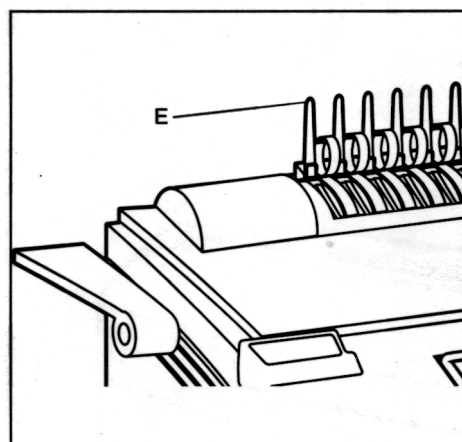

Figure 3
1. Place Plastic Comb Binding Element behind the Vertical Comb (E) with open portion of element facing you (see figure 3).